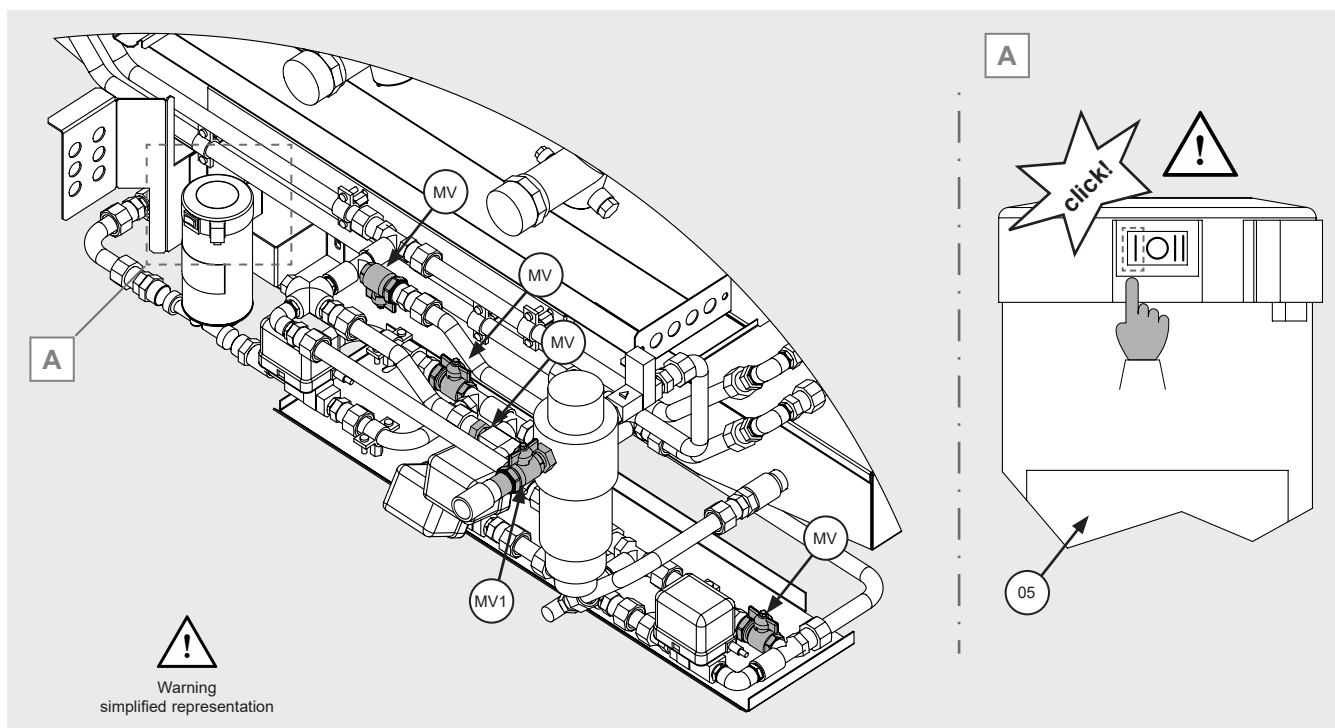

Figure 15
- 10.14 Manual valve (MV1) water inlet open, remaining manual valves (MV) closed, see Figure 15.
- 10.17 Ensure that the recovery pump switch, if present, is set to I. See detail A, Figure 15.